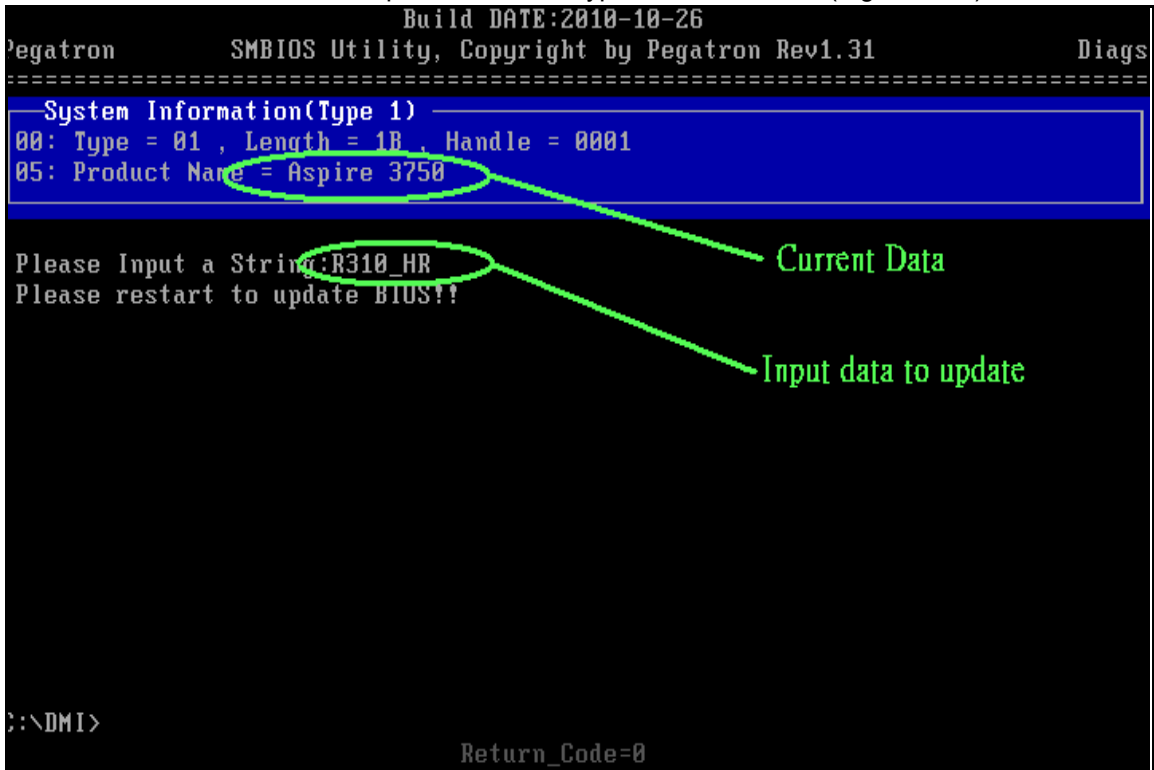

Figure 2-25. Update Product Name
3. Execute < **SN.bat** > to update SMBIOS Type 1 Serial Number(Figure 2-25).